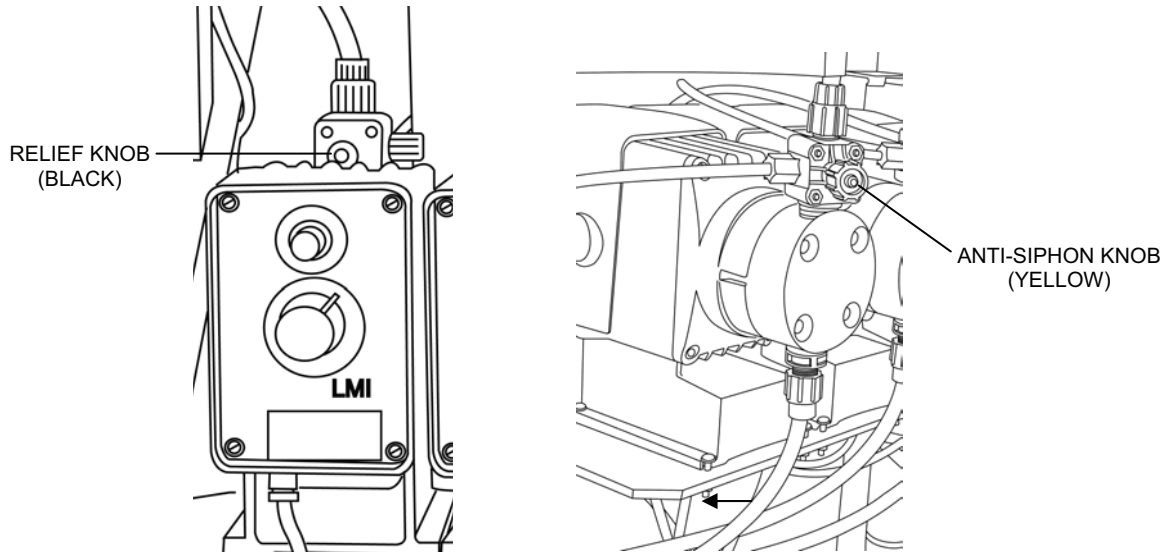

Figure 2. Chemical Pump Relief and Anti-Siphon Knobs.
- a. Turn the relief knob (black knob) $\frac{1}{4}$ turn either direction and pull out the anti-siphon knob (yellow knob) and hold it out for 5-10 seconds (see Figure 2).
- f. Turn the relief knob (black) and the anti-siphon knob (yellow) on the four-function valve 1/4 turn to the normal position (see Figure 2).
- d. Turn the relief knob (black knob) of the four-function valve 1/4 turn (see Figure 2).
- f. A small amount of solution will begin to discharge out the return tubing of the four-function valve. Once this happens, turn the relief knob another 1/4 turn (black knob – see Figure 2)